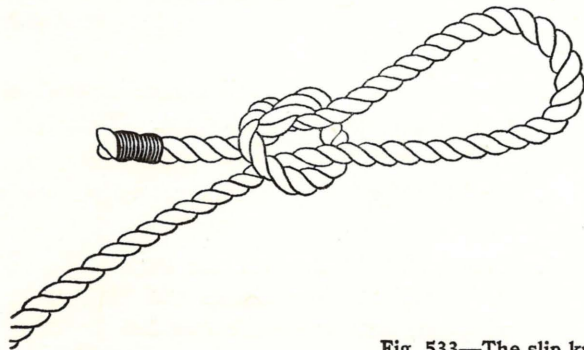

Fig. 533—The slip knot, or halter hitch
2. **The Ordinary Slip Knot, or Halter Hitch.** This knot is used where a loop which may be drawn tight, or loosened at will, is desired. It should not be used around the necks of animals, as it may draw tight and choke them. (See Fig. 533.)